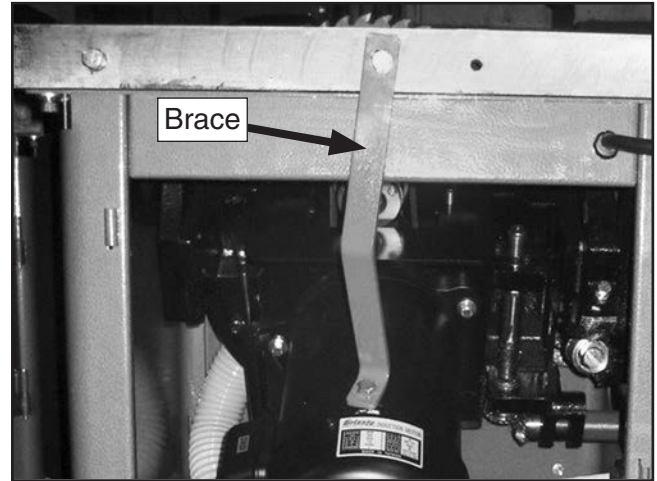

Figure 13. Motor shipping brace.
2. Remove the motor brace shown in **Figure 13** then. The brace is installed to prevent shipping damage.